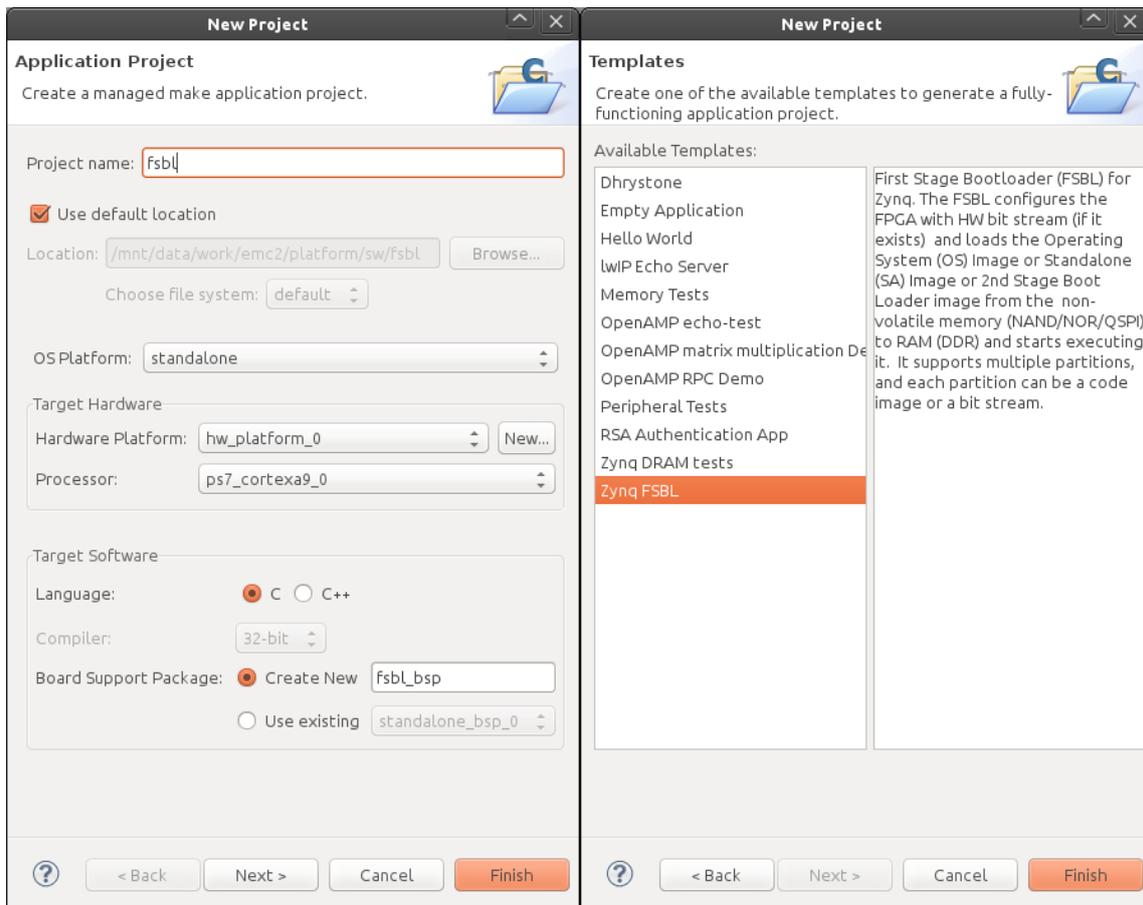

Figure 6: Create FSBL.
4. Create first stage boot loader (FSBL), menu *File→New→Application Project*, set project name to *fsbl*, select OS platform as *standalone*, set hardware platform to *hw\_platform\_0*, set CPU to *ps7\_cortex9\_0*, check *create new* in board support package selection, let BSP name *fsbl\_bsp*. Click on *Next* button. Select *Zynq FSBL* template and click *Finish* (Figure 6).